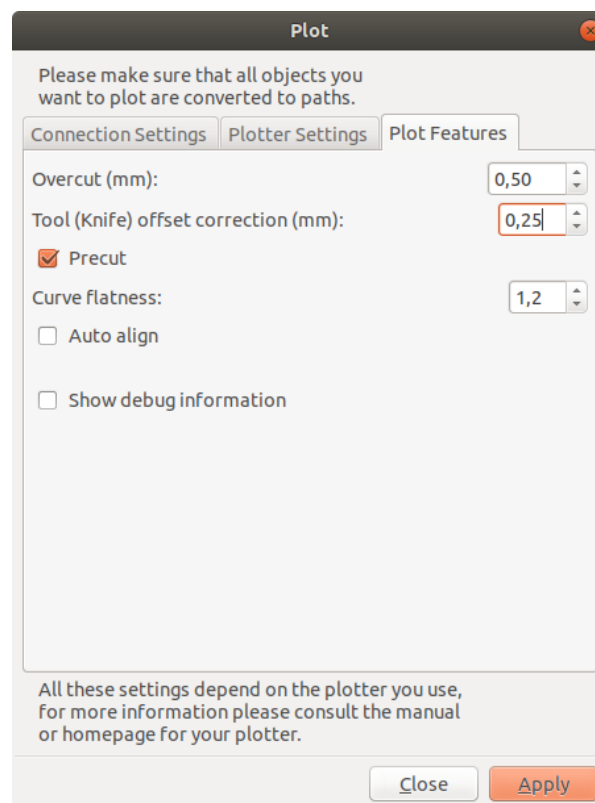

Figure 4.1c: Plot Features
4. At the *Plot features* tab (Figure 4.1c) set the desired overcut (0,5-1,0 mm, depending on the size of your objects). For small structures this should be small, for bigger structures plotted with higher speed you may choose higher values. *Auto align* will ignore the size of your page and instead move the contents to the plotters origin.